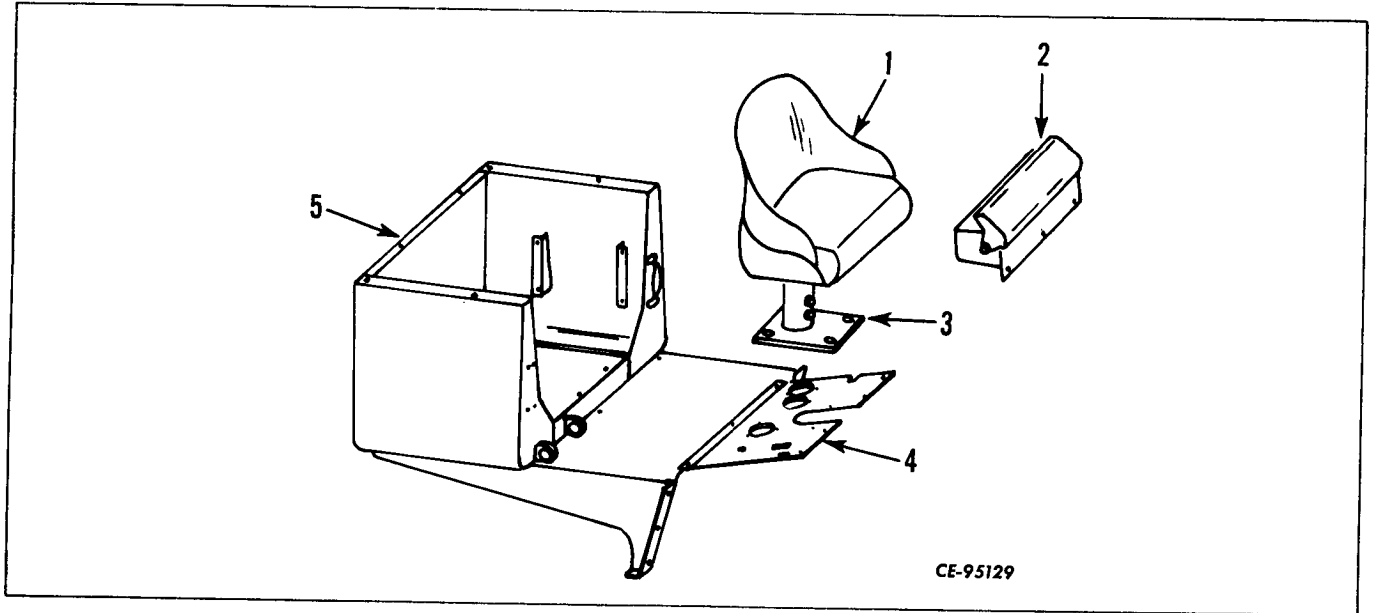

Figure 1-10
The operator's compartment is composed of the compartment enclosure (5, Fig. 1-10), the instrument panel and box assembly (2), the operator's seat assembly (1, 3) and the compartment floorboards (4). The operator's cab is an optional accessory. Cab side enclosures are also available.